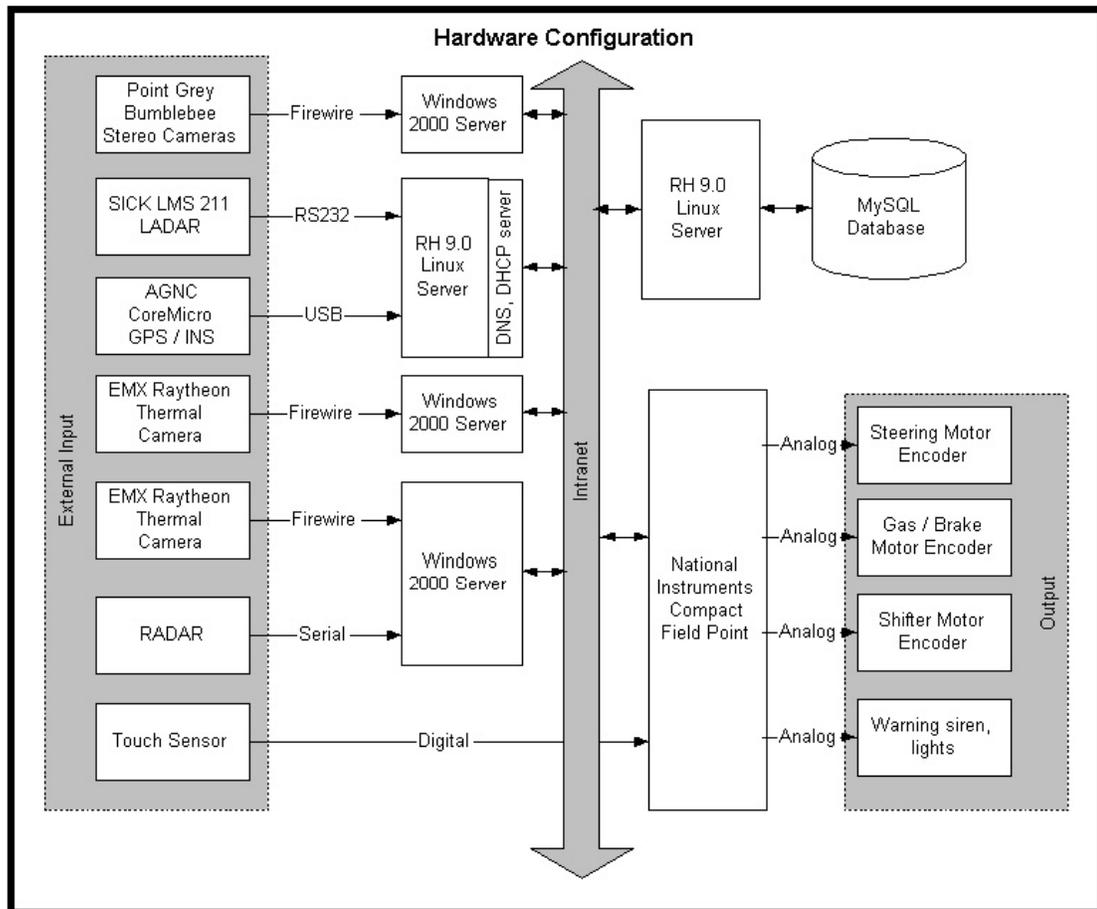

Figure 2: System hardware configuration
The Challenge Vehicle will utilize five (5) shock-mounted Pentium class servers and one (1) National Instruments Compact Field Point system. Four of the five servers are motherboard-based 19” rack-mounted computers, 2 server-unit (2U) form-factor in height. The fifth server is a Dell Optiplex, standard desktop PC. The list below itemizes the servers and describes their respective functions, which are also displayed in Figure 2.